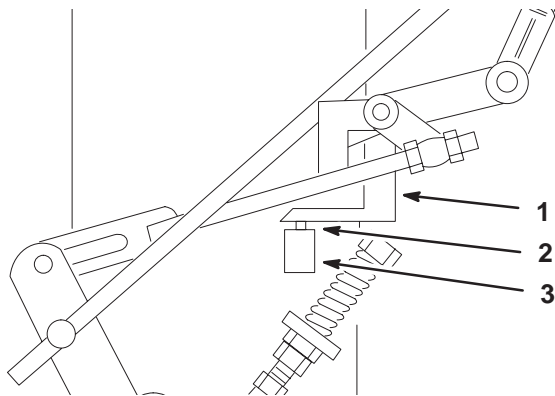

Figure 40
3. Check the orientation of the tabs on the ends of the speed control crank. These tabs should be pointing straight down at the 6 o'clock position approximately (Fig. 40).
4. Adjust the threaded yoke at the bottom of the speed control linkage until the tabs are at the 6 o'clock position (Fig. 40).
6. Check to make sure the safety switch is depressed and there is a 5/16 in. (8 mm) space between the actuating tab and the switch. (Fig. 40).
7. If needed, adjust switch location to create the 5/16 in. (8 mm) space (Fig. 40).